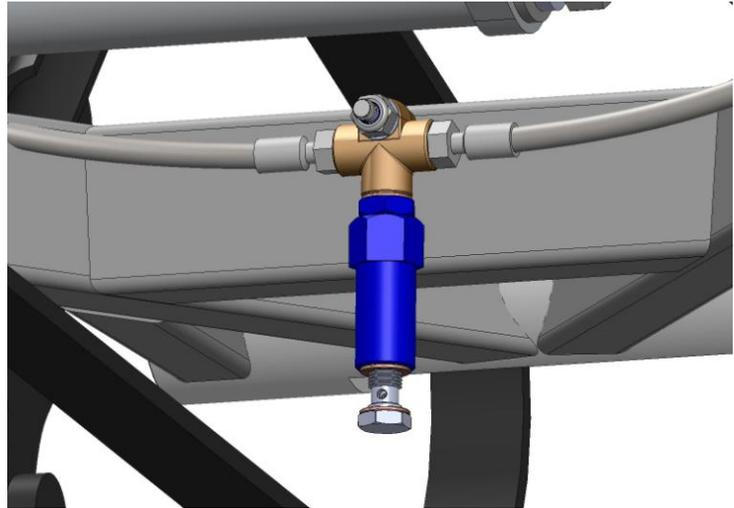

Figure 18
Note: You may have a clearance issue with the Anti-roll bar housing and Factory Harley chassis tab. Trim Tab as necessary. Figure 18
- Connect OEM brake line from rear master cylinder to Brake Pressure Residual Valve using 10mm single banjo bolt and two crush washers. Torque down to 17 to 19 Foot Pounds. **Figure 18.**